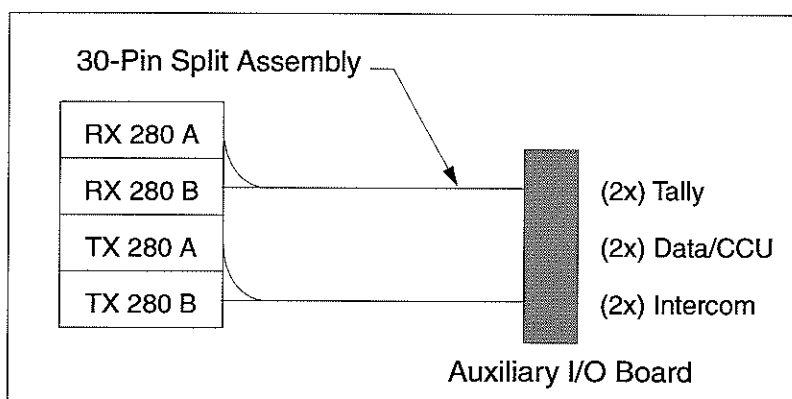

Figure 47. Split Signal Hardware Requirements
The two TX/RX 280 module sets interface with the auxiliary I/O board via the ribbon cables: The ribbon cable has two 30-pin headers to jumper both TX 280s to the TX port of the auxiliary I/O board and the same for both RX 280s. Refer to Figure 47.
* Note: For split-AUX operation, the Sidewinder would need to be in the “A” location. Refer to Figure 47.